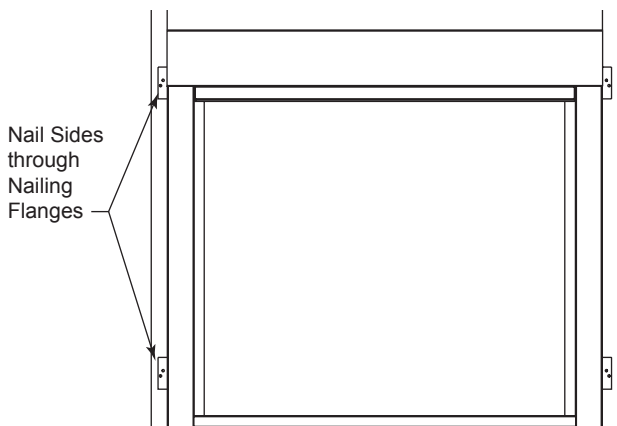

Figure 9 - Side Nailing Flanges FP2693
4. Anchor firebox to the side framing members using 8d nails or other suitable fasteners. *Figure 9*